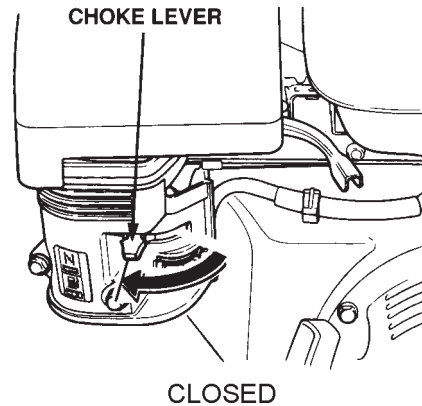

Figure 15. Engine Choke Lever (Closed)
4. Place the *choke lever* (Figure 15) in the "**CLOSED**" position if starting a **warm engine** or the **temperature is warm**.